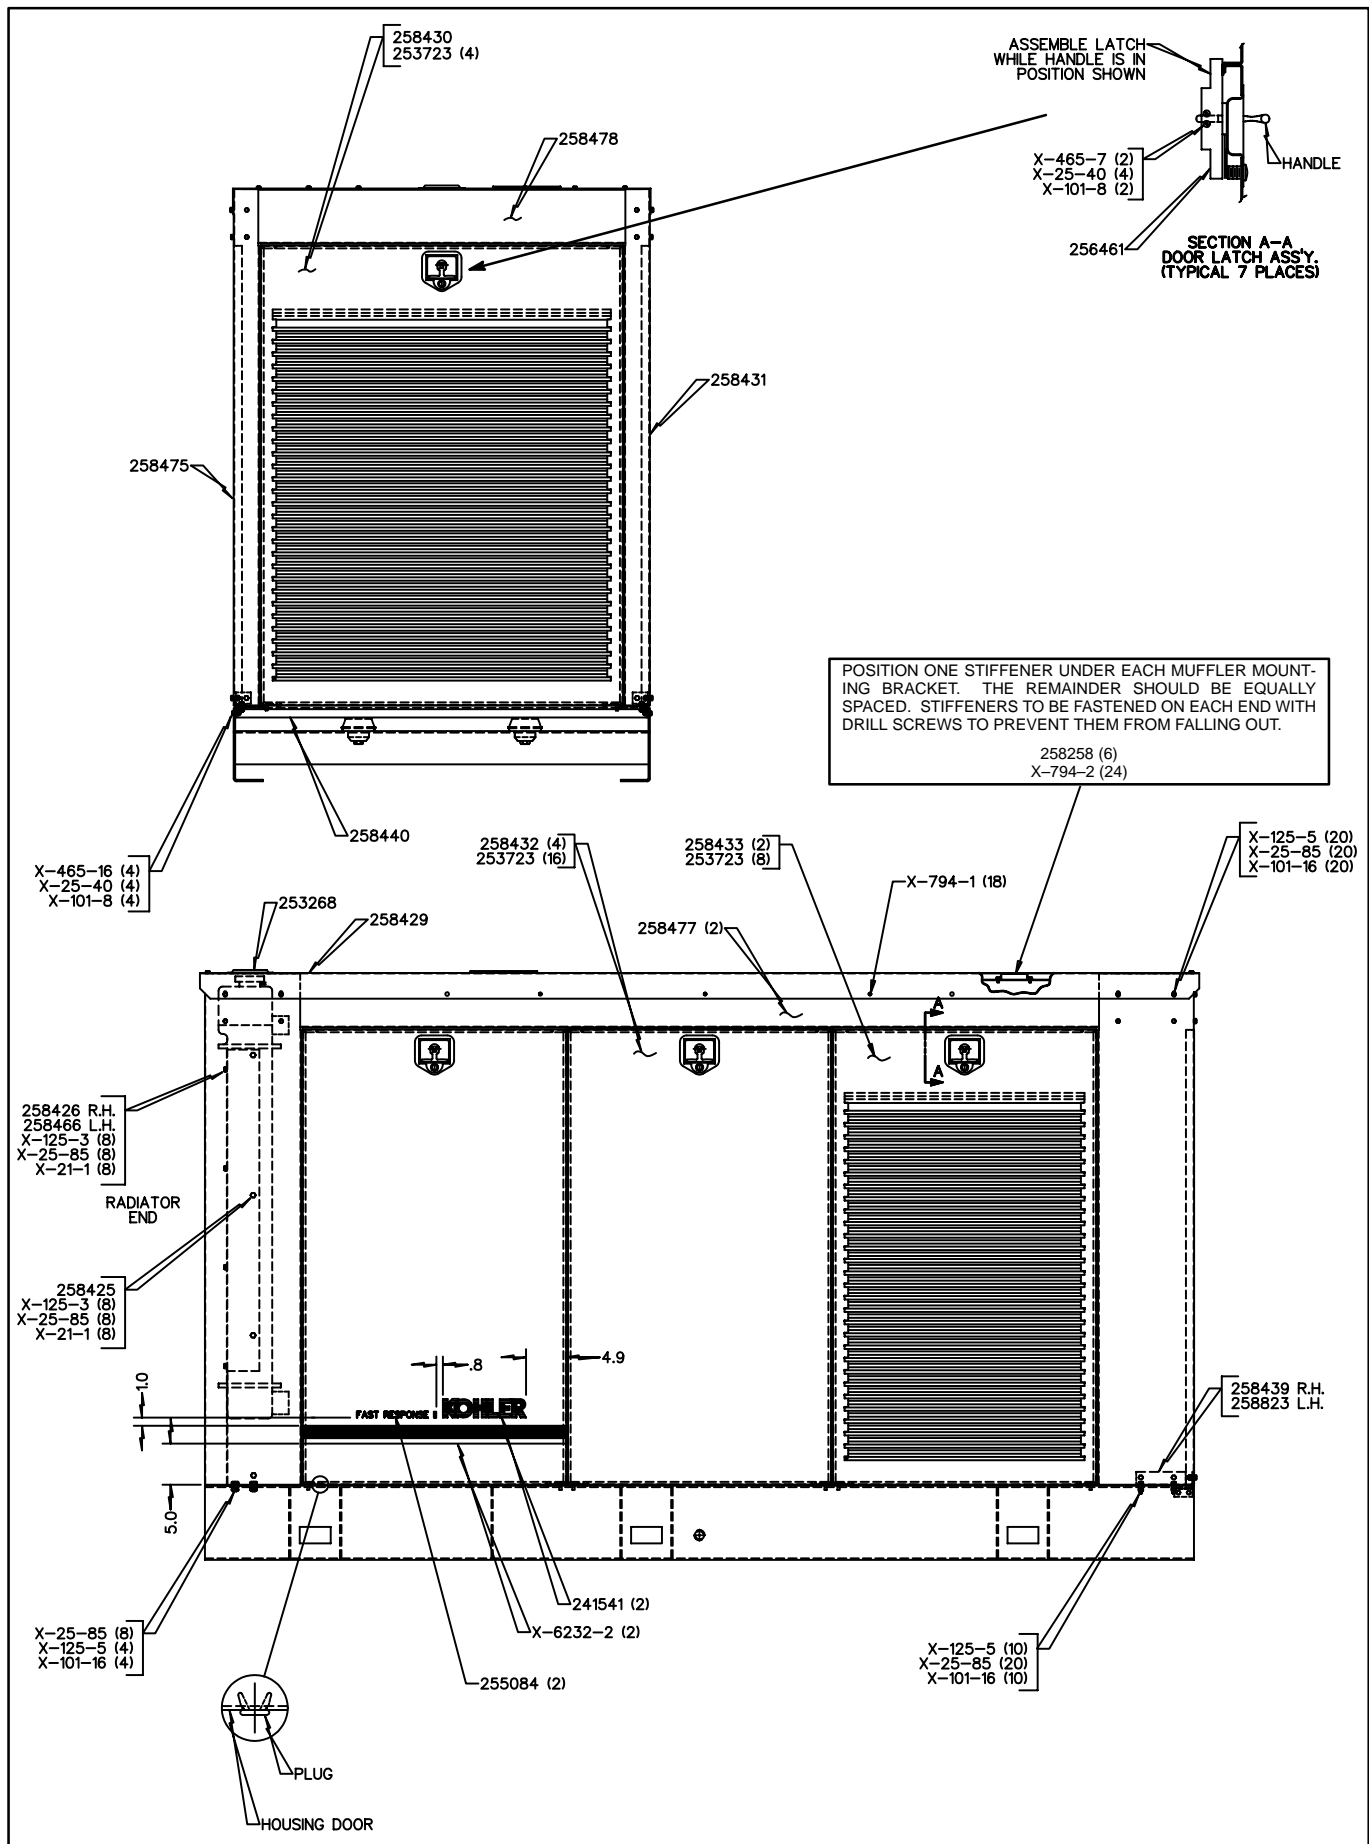

Figure 1. Weather Housing Components
2. Refer to the assembly drawing in Figure 1 to identify kit components and their relative position.
13. Position rear mounting bracket (258440) on alternator end of housing as shown in Figure 1. Secure to skid with screws (X-465-16), flat washers (X-25-40), and elastic stop nuts (X-101-8).
14. Attach latch (256461) to each door handle with screw (X-465-7), flat washer (X-25-40), and elastic stop nut (X-101-8). Latch handle must be in position shown in Figure 1 during installation.